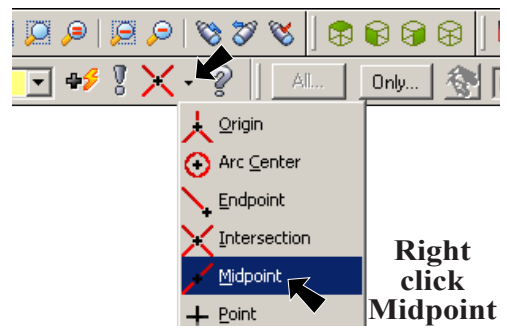

Fig. 32
Step 7. Click the down arrow in the Auto Cursor ribbon bar and **right click Midpoint** , **Fig. 32.**
Step 5. Click the down arrow in the Auto Cursor ribbon bar and click **Midpoint** , **Fig. 32.**